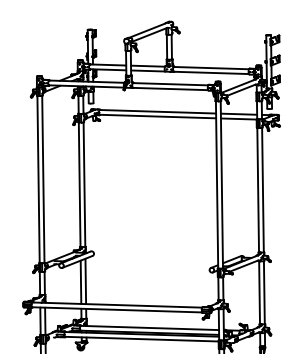

fig. 6
6. As Fig. 6, attach 2x tube I onto 2x background holder tube G first and then attach them onto tube A, with position as Fig. 6.